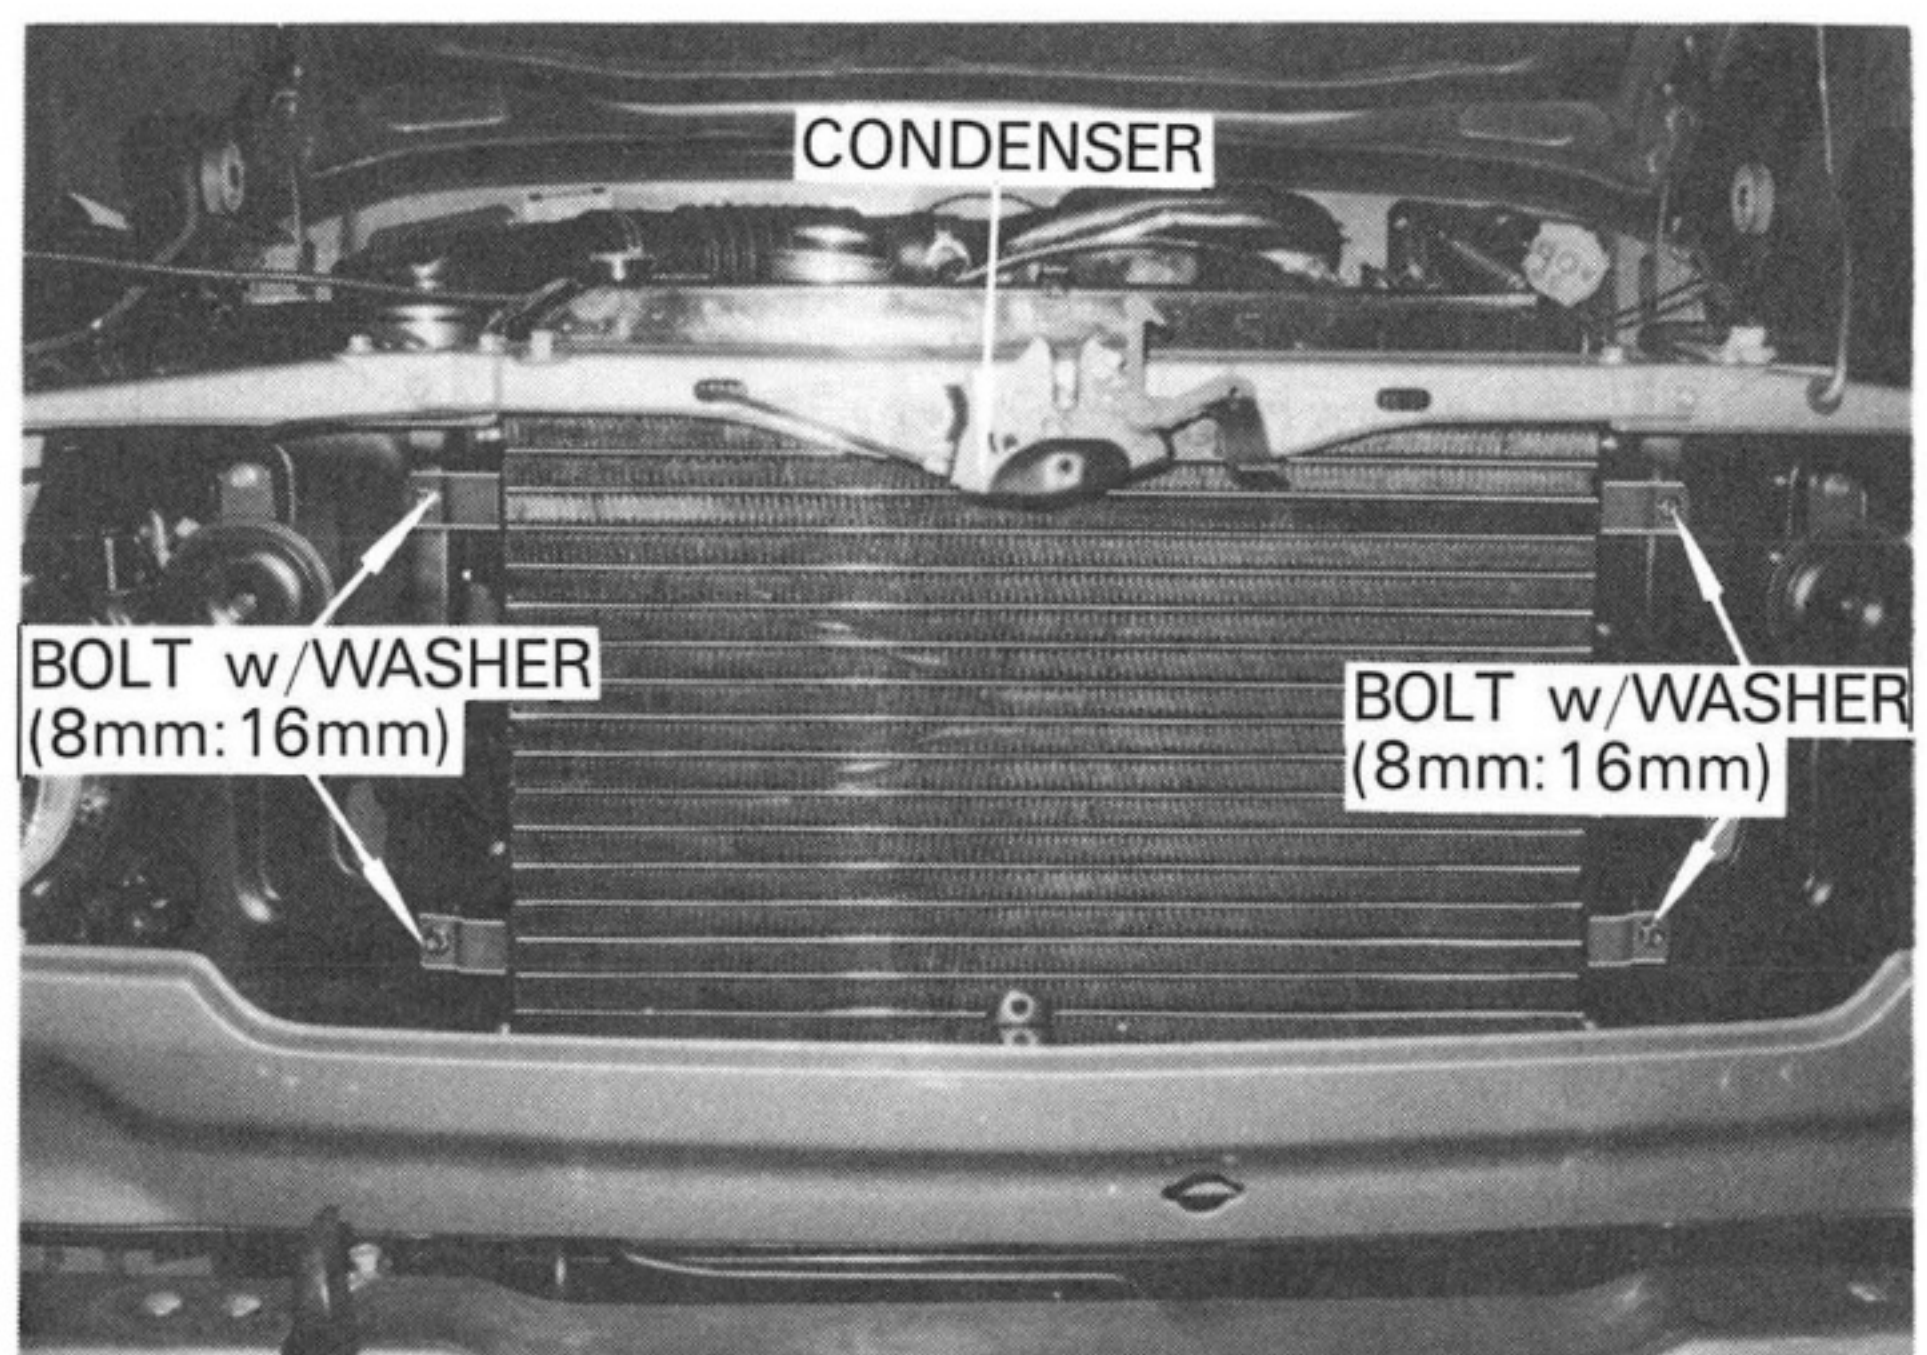

Fig. 26
- A) Install the condenser using four bolts in the kit on the radiator side baffle where threaded holes are provided. See Fig. 26.